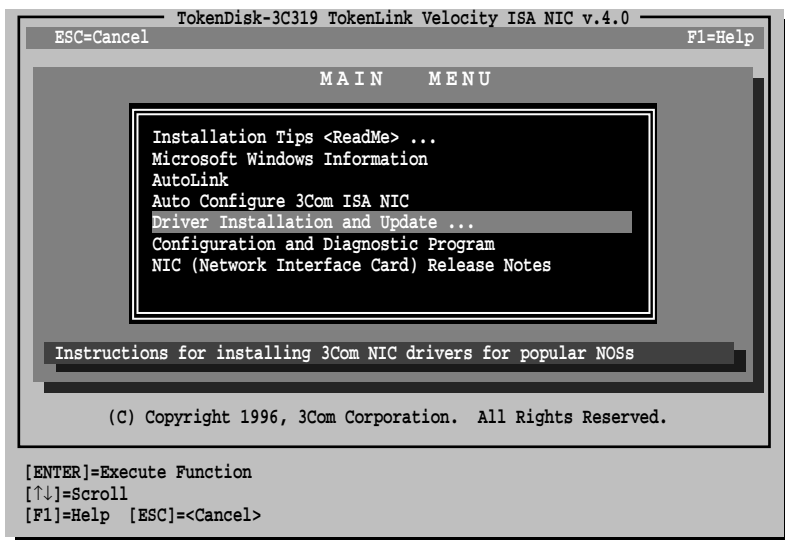

Figure 8-1 Main Menu with Driver Installation and Update Selected
- 3 From the main menu shown in Figure 8-1, select *Driver Installation and Update...* and press [Enter].**
The NW410 directory on *TokenDisk* diskette #1 includes the driver and files for Novell NetWare 3.12 and 4.x servers. Refer to Novell documentation for instructions on using the INSTALL.NLM file to install the drivers for the 3C319 NIC, or follow the instructions provided under the *Installation Tips <Readme>* menu option on the main menu, shown in Figure 8-1.
Select *Installation Tips <Readme>* on the main menu shown in Figure 8-1 for instructions on installing the NDIS 2.01 driver in supported network operating systems.